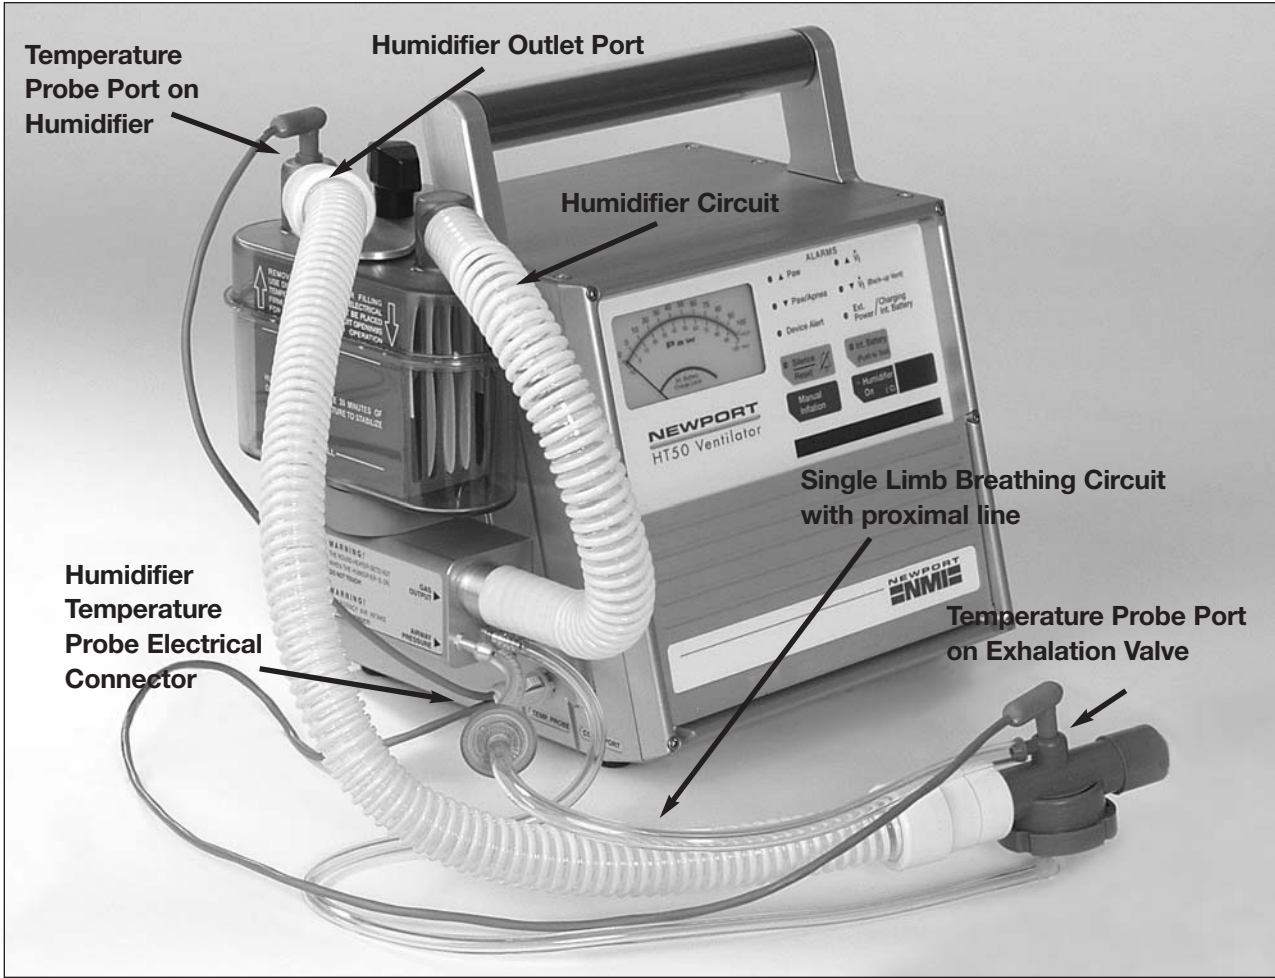

Figure 5-2
1. Ensure that the patient circuit and humidifier are assembled correctly. Refer to Figure 5-2.
5. Connect the short side of the Humidifier Temperature Probe cable to the port on the top of the humidifier bottle. Plug the electrical connector into the side of the HT50 and then connect the other end of the cable to the temperature probe port on the exhalation valve. See Figure 5-2.